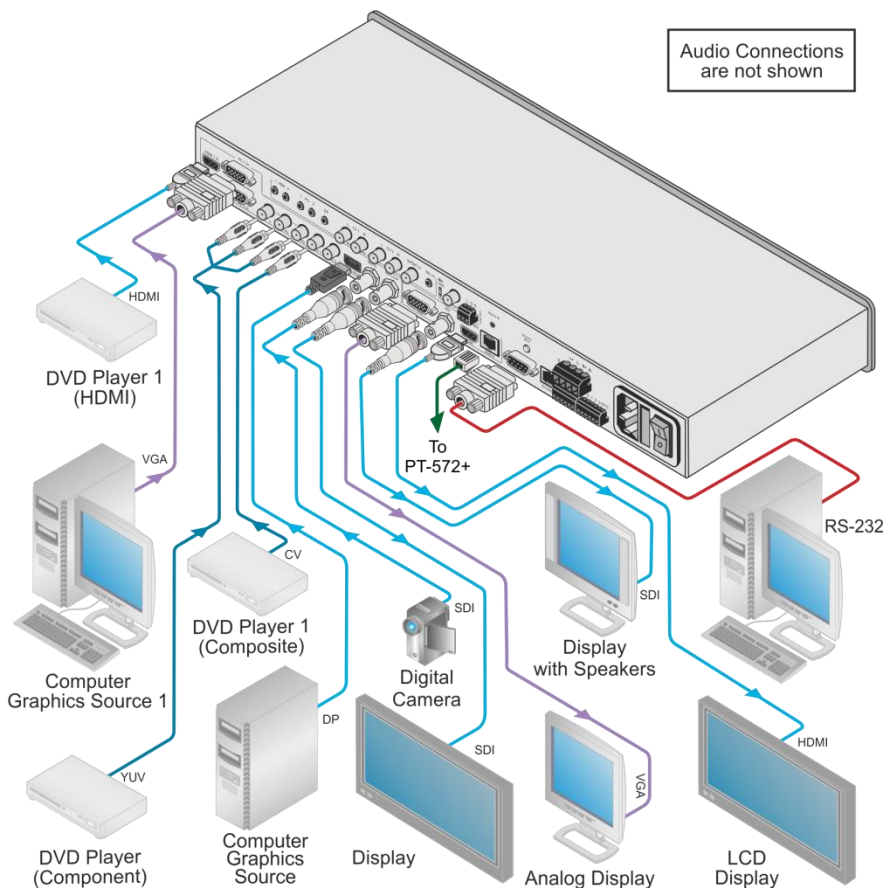

Figure 4: Connecting the VP-771 Presentation Switcher/Scaler
To connect the **VP-771**, as illustrated in the example in Figure 4, do the following:
6. Connect the audio input signals to the AUDIO IN connectors (3.5mm mini jack and RCA connectors), as required (not shown in Figure 4).
13. Connect the SPKR block connector to a pair of loudspeakers, by connecting the left loudspeaker to the "L+" and the "L-" terminal block connectors, and the right loudspeaker to the "R+" and the "R-" terminal block connectors. **Do not Ground the loudspeakers** (not shown in Figure 4).
15. Connect the power cord (not shown in Figure 4).